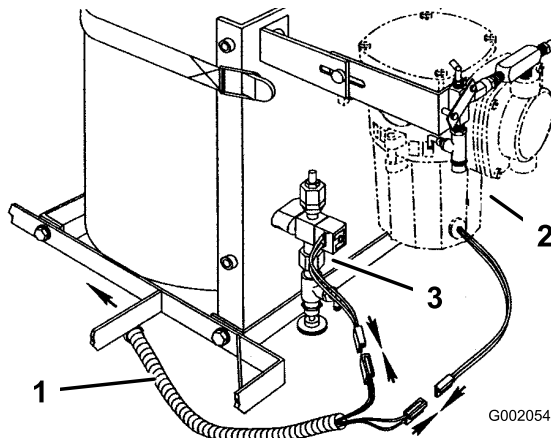

Figure 21
1. Locate the wiring harness and make the connections to the compressor and the solenoid located at the foam tank/compressor assembly (Figure 21).
Note: Both of the plug connections are identical (Figure 21).